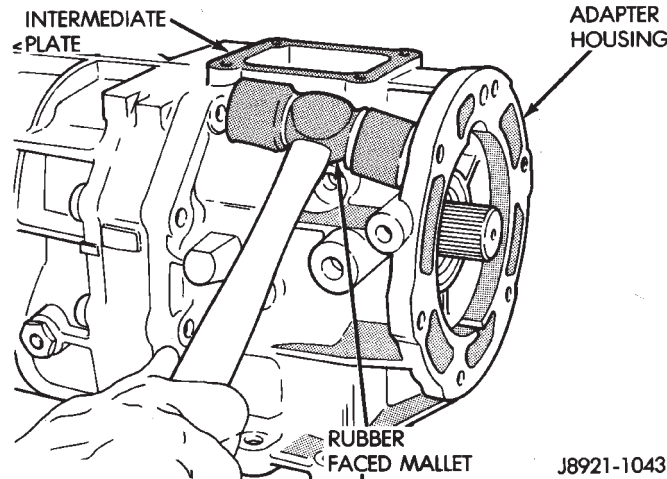

Fig. 28 Loosen Adapter/Extension Housing
- (16) Loosen adapter/extension housing by tapping it loose with plastic mallet (Fig. 28).